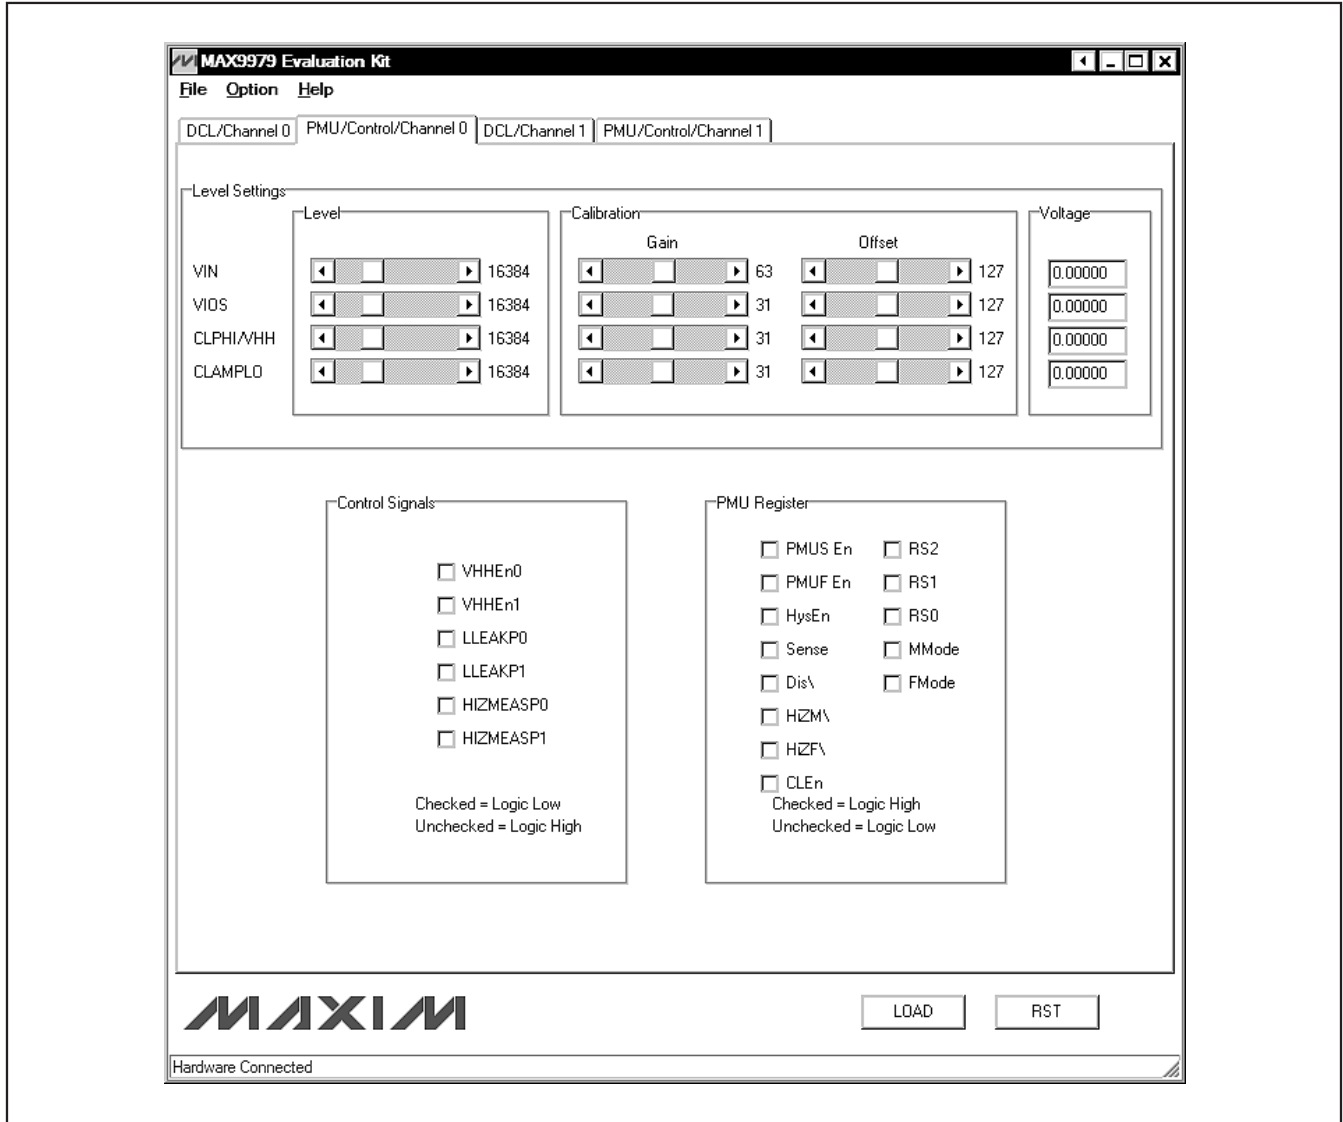

Figure 4. MAX9979 EV Kit Software Main Window (PMU/Control/Channel 0 Tab)
**PMU/Control/Channel 0** and **PMU/Control/Channel 1** tab sheets (Figures 4 and 5) are almost identical except that the **PMU/Control/Channel 0** tab sheet also contains the **PMU Control Signals** group box. Both of these tab sheets contain **Level Settings** and **PMU Register** group boxes.